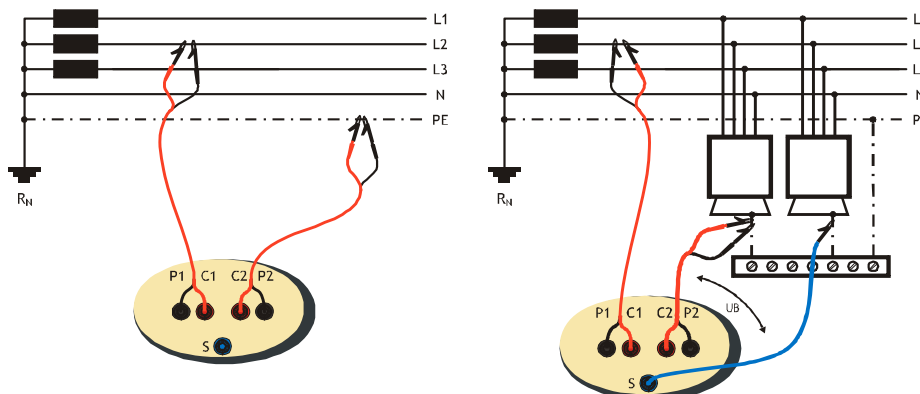

Figure 5.5: Loop impedance and contact voltage U_B measurement
- For measurement L-PE impedance see chapter 5.2, figure 5.5.
- ❑ Press the key TEST on the Eurotest AT (XA) to measure impedance.
* When recognized, the Eurotest AT (XA) automatically offers operation with the impedance adapter and displays in the terminal voltage monitor field the voltage and frequency measured by the adapter at its input.
** See chapter 4.2 *Single test* in user manual for Eurotest AT (XA).
- Step 2** Connect the test cable to the item under test. Follow the connection diagrams shown in figure 5.5 to perform fault loop impedance measurement.
Ub..... Contact voltage at maximum prospective fault current (Contact voltage is measured against probe S terminal if it is connected according to figure 5.5.).